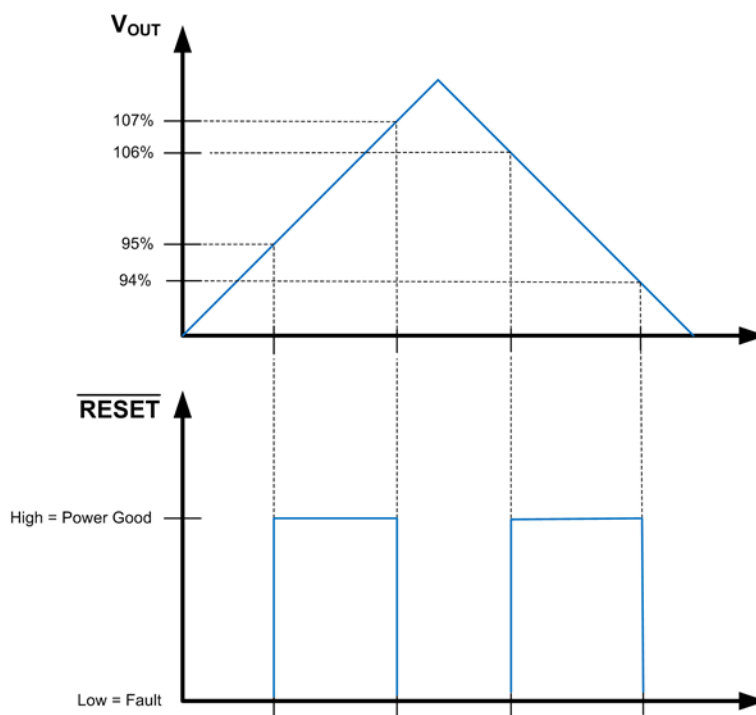
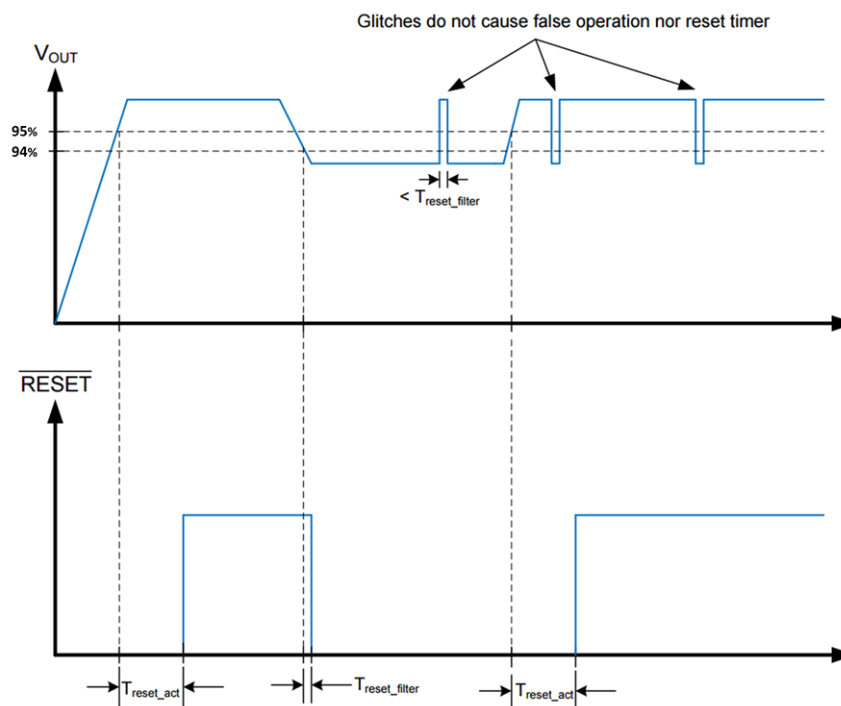
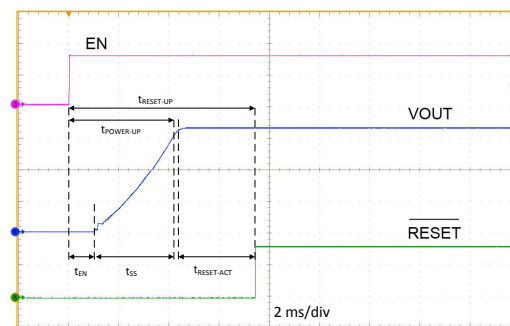

Figure 10. Static RESET Operation
Figure 11. RESET Timing Behavior
Figure 12. Typical Start-Up Waveform
- A delay has been added between the point at which the output voltage is within specified limits and the flag asserts Power Good. A glitch filter prevents false flag operation for short excursions in the output voltage, such as during line and load transients. See Figure 11 and Figure 12 for more detail.
Because the $\overline{\text{RESET}}$ comparator and the regulation loop share the same reference, the thresholds track with the output voltage. When EN is pulled low, the $\overline{\text{RESET}}$ flag output is forced low. When the device is disabled, $\overline{\text{RESET}}$ remains valid as long as the input voltage is ≥ 1.5 V. $\overline{\text{RESET}}$ operation can best be understood by reference to Figure 10 and Figure 11. Output voltage excursions lasting less than $T_{\text{RESET-filter}}$ do not trip $\overline{\text{RESET}}$. Once the output voltage is within the prescribed limits, a delay of $T_{\text{RESET-act}}$ is imposed before $\overline{\text{RESET}}$ goes high. This enables tighter tolerance than is possible with an external supervisor device while also expanding the system allowance for transient response without the need for extremely accurate internal circuitry.
A typical start-up waveform is shown in Figure 12 along with timing definitions. This waveform indicates the sequence and timing between the enable input, output voltage, and $\overline{\text{RESET}}$. From the figure, the user can define several different start-up times depending on what is relevant to the application. Table 2 lists the timing definitions and typical values.